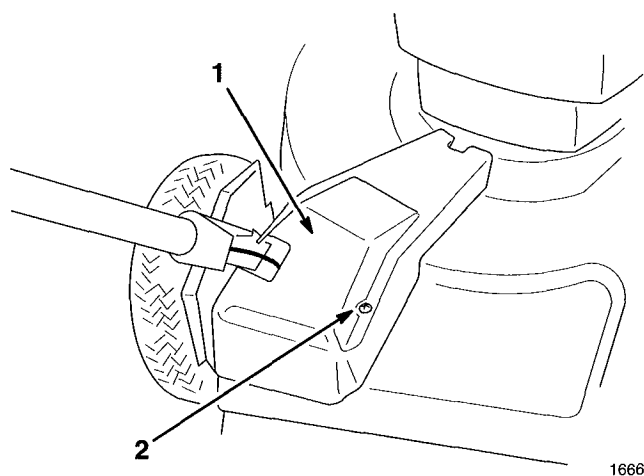

Figure 30
1. With engine turned off, remove bolt securing belt cover (Fig. 30) to mower housing.